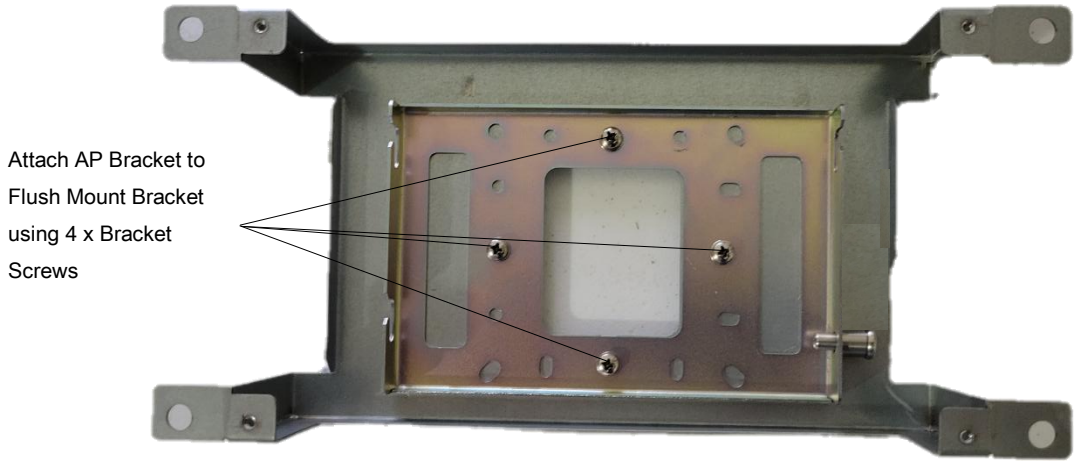

Figure 81: APV3-DAS - Mounting Standard Mounting Bracket to Flush Mount Bracket
- Install the APV3-DAS standard mounting bracket into the flush mount bracket using the (4) screws removed in the previous step. Ensure the standard mounting bracket is installed with the Spring-loaded Pin Lock on the right side. See Figure 81 below.